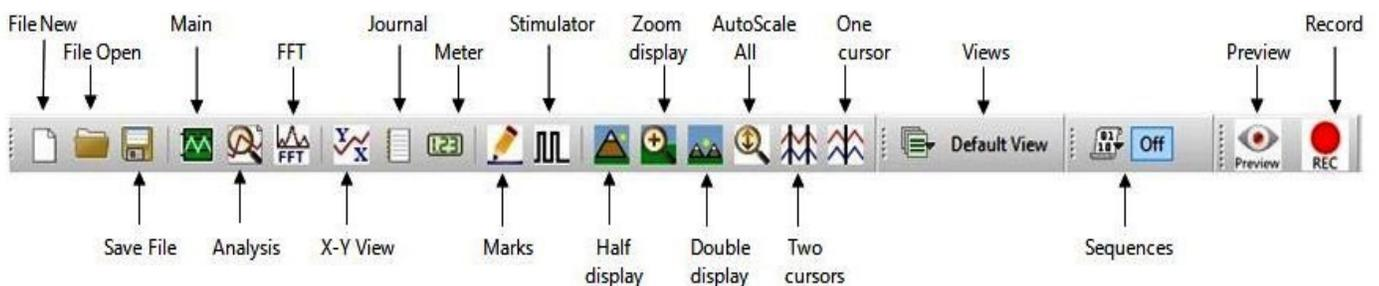

Figure AN-12-S8: The LabScribe toolbar.
7. Click the Double Cursor icon (Figure AN-12-S8), so that two vertical lines appear over the recording window.